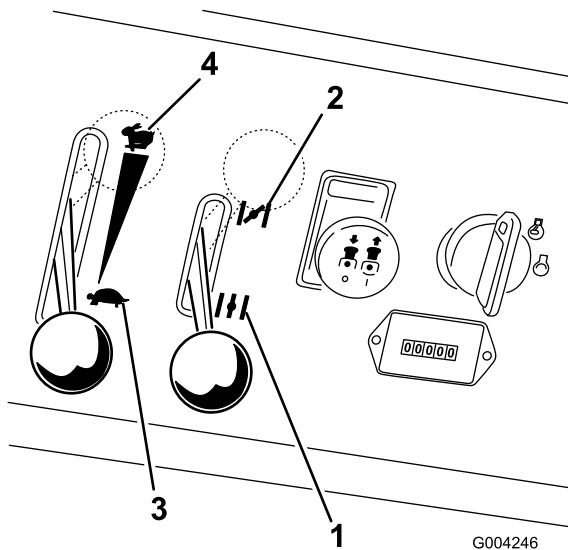

Figure 11
4. Move the choke control to the **on** position before starting a cold engine (Figure 11).
5. Move the throttle control to the **fast** position before starting a cold engine (Figure 11).
7. After the engine starts, move the choke to off (Figure 11). If the engine stalls or hesitates, move the choke back to on for a few seconds, then move the throttle lever to desired setting. Repeat this as required.
2. Move the throttle lever midway between the slow and fast positions (Figure 11).